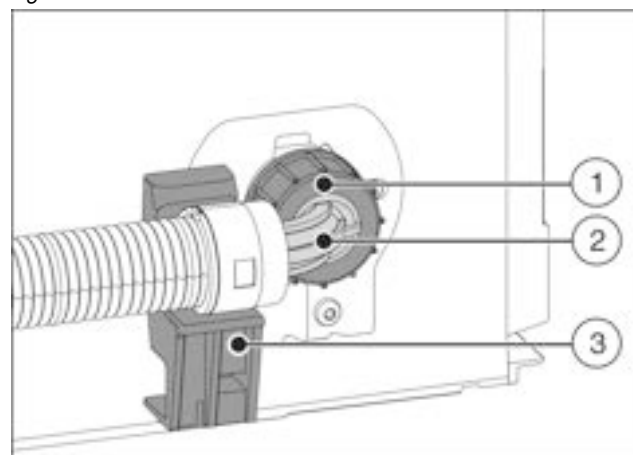

Fig. 23
- Position and hold the angled hose end Fig. 23 (2) horizontally at the holder Fig. 23 (3).
- Screw the nut Fig. 23 (1) onto the thread by hand until securely in place.